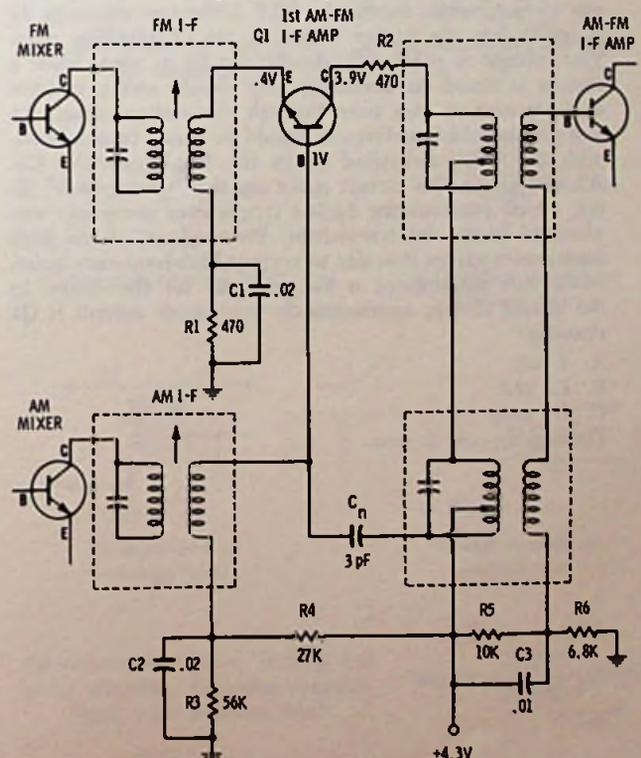

Fig. 13-21. Circuit for Questions 23, 24, and 25.
23. Fig. 13-21 is a combination am/fm i-f amplifier section. In this circuit the a-m and fm signals
24. If the collector of Q1 in Fig. 13-21 reads 4.3 volts, it might indicate
25. In Fig. 13-21, capacitor C₂